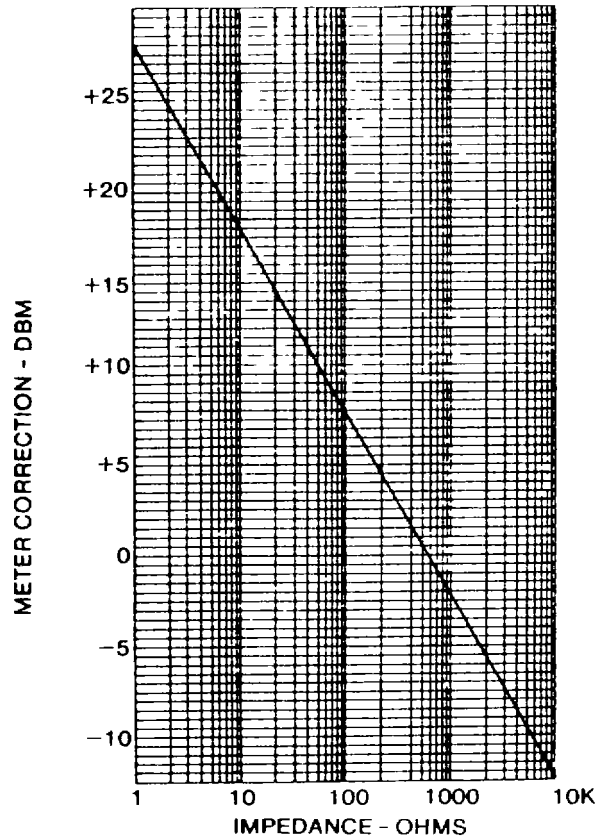

Figure 2-6. Impedance correction graph.
- To compute dBm signal level on transmission lines having Impedances other than 600 ohms, use the impedance correction graph (figure 2-6) to convert the voltmeter dB indication to dBm. Locate the transmission line impedance at the bottom of the graph and follow that impedance line up to the diagonal line. The dBm level is the algebraic sum of the level Indicated on the meter and the correction shown on the graph. For example: if the indication on the DECIBELS scale is +2, the RANGE selector switch is In the +30 position, and the measurement is made across an impedance of 135 ohms, the corrected level is +39 dBm and is obtained as follows: